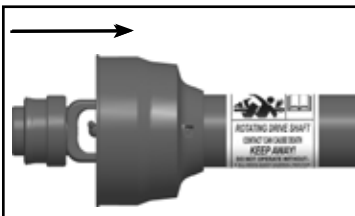

FIG. 8
**STEP 12:** Make sure the tractor engine is shut off, then connect the driveline to the tractor PTO. The driveline locks on with a retractable retaining ring coupling device. Slide the ring back for installation (see FIG. 8). Make sure the retracted retaining ring is snapped back and locked on the tractor PTO.